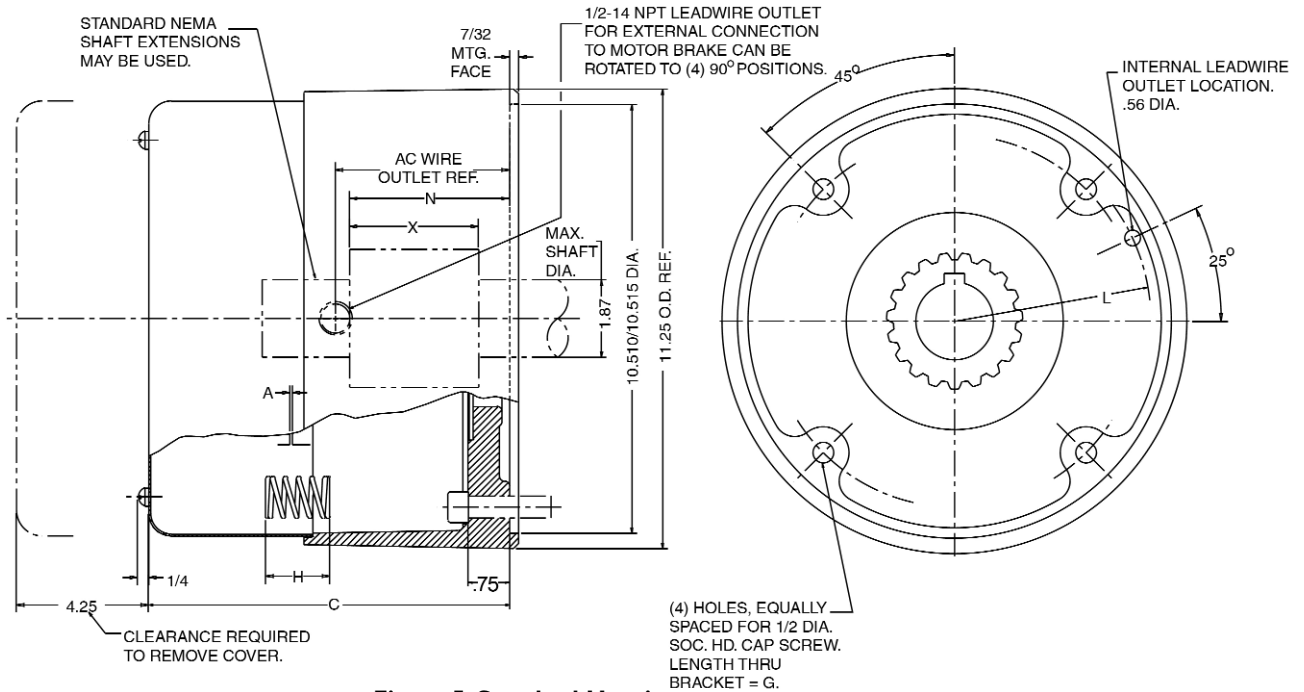

Figure 5. Standard Housing
1. Remove hub (22) from brake and position on motor shaft with key according to dimension "N". Stamped part number on hub should face away from motor. Tighten hub set screws with 12 lb. ft. torque.
2. Remove cover screws (17) and cover (18).
4. Bolt brake to motor "C" face with four 1/2 inch socket head cap screws. See Figure 5 for screw length thru bracket.